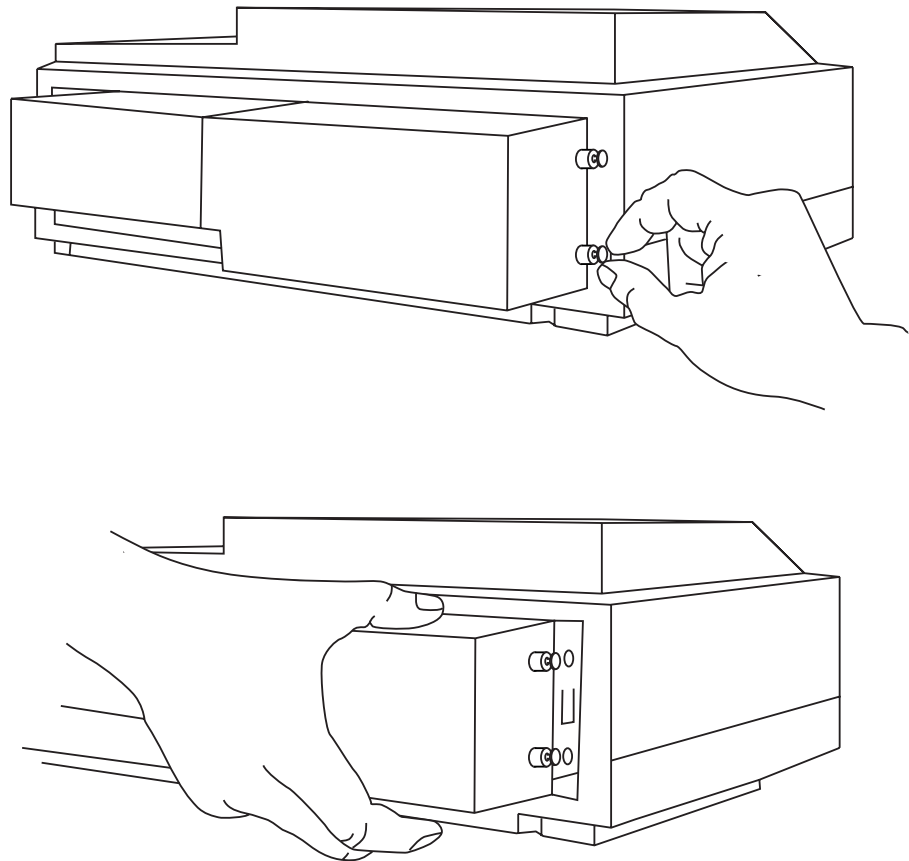

Figure 1: Removing the Lamp Cover
- 3) On the right hand side of the rear panel (as you face the back of the instrument) is a metal cover secured by two spring screws. Underneath the cover is the lamp assembly. Loosen the screws and gently slide the cover to the right, then pull it towards you to disengage it from the instrument (see Figure 1).